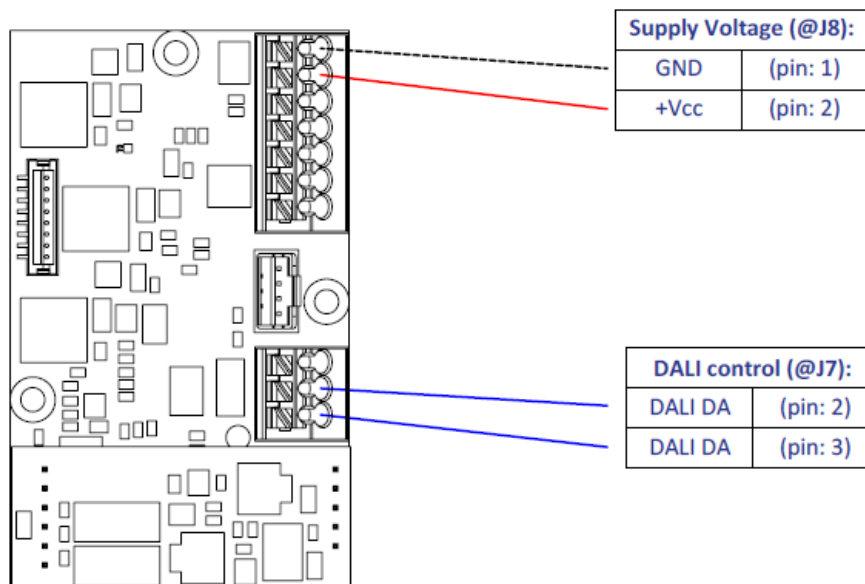

Figure 28: Wiring diagram for DALI control
To add DALI functionality to the motherboard first remove the power from the driver board and then place the DALI extension board on connector J6 & 9 (dual Header). See Fig 26. This will connect the DALI control input to pin 2 (DA) and pin 3 (DA) of connector J7 on the motherboard. See Fig 27 for view and Fig 28 for wiring.